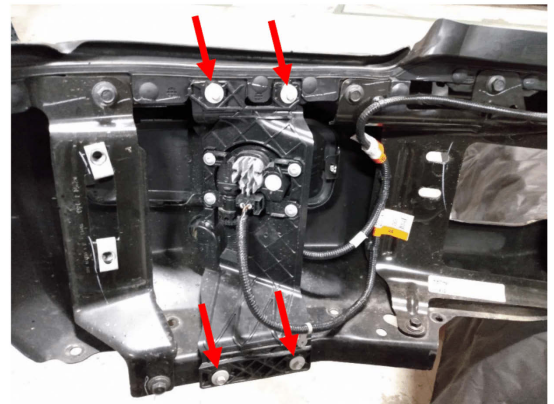

Figure 11.
11. Using an 8mm socket wrench, remove the four (4) screws in each fog light bracket to remove them from the bumper. Figure 11.